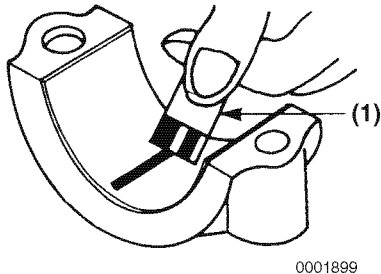

Figure 6-50
7. Compare the width of the flattened PLASTIGAGE (**Figure 6-50, (1)**) to the graduation marks on the package. The mark that most closely matches the width of the flattened PLASTIGAGE will indicate the bearing oil clearance. Record the measurements. See *Crankshaft* on page 6-8.